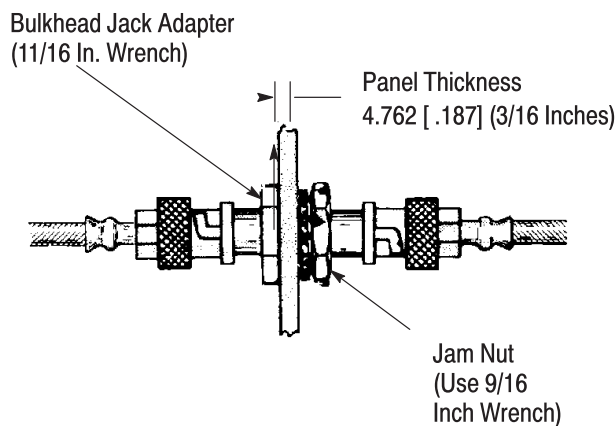

Figure 10
3. Insert the bulkhead jack adapter through the hole in the panel. See Figure 10.
4. Assemble the lock washer and jam nut to complete the assembly. See Figure 10.